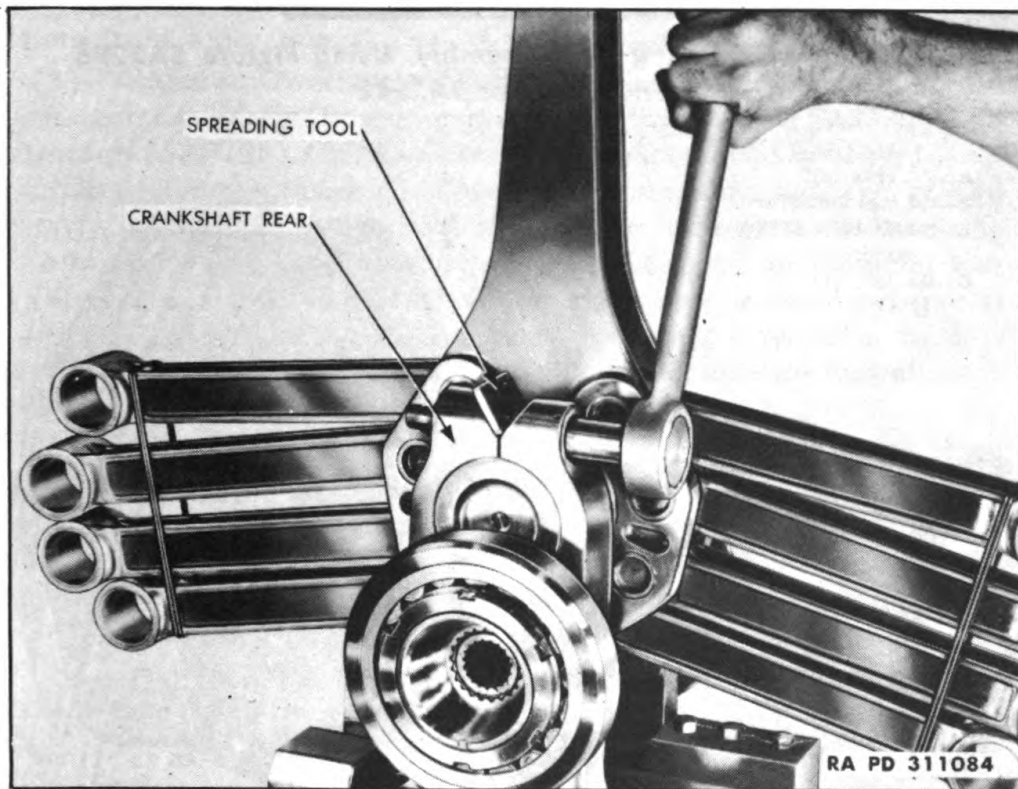
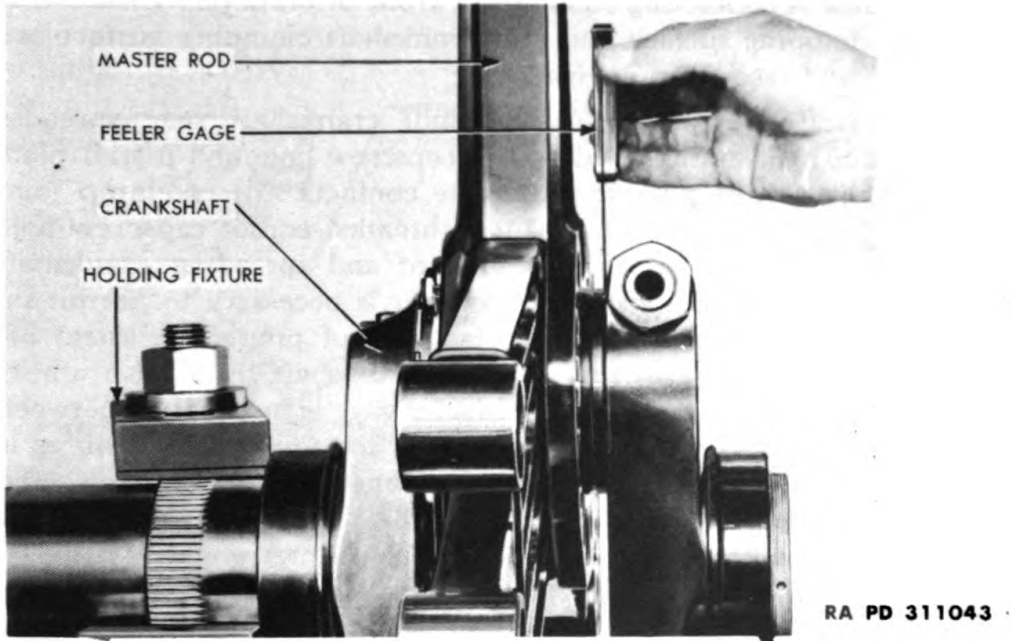
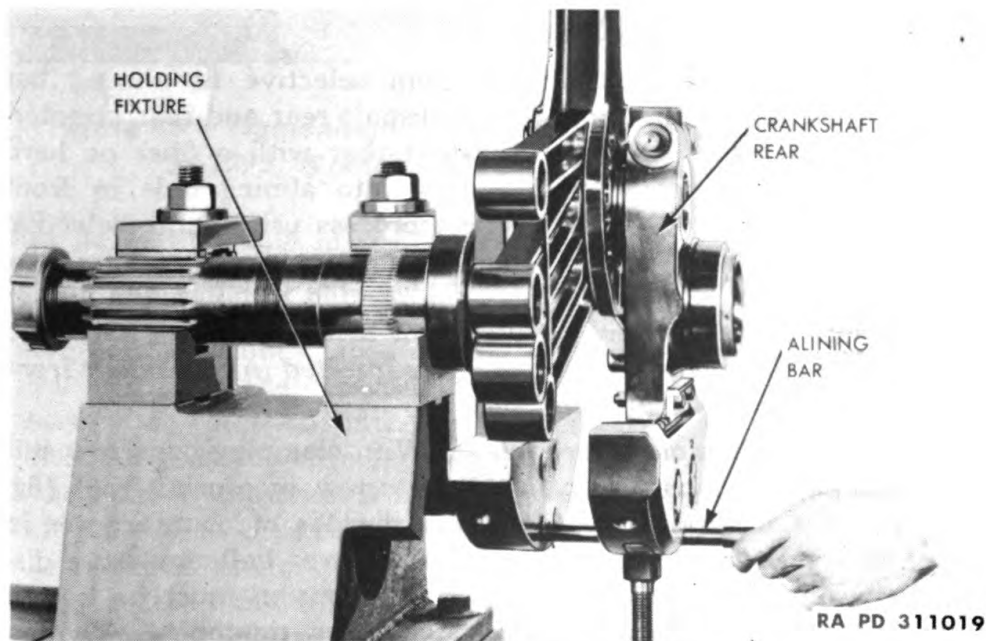

Figure 39 — Removing Crankshaft Rear, Using Spreading Tool 5A2300 and 5A2301
Figure 43 – Checking Master Rod Side Clearance, Using Holding Fixture 5A2296
Figure 44 – Checking Crankshaft Alinement, Using Fixture 5A2296 and Alining Bar 5A2290
(3) **REMOVE CRANKSHAFT REAR.** Remove cotter pin from crankshaft rear cap screw. Loosen cap screw with wrench (5A2339) and extension (5A2295) (fig. 45). Remove cap screw and washer. Install crankshaft rear spreader (5A2300) plug in unthreaded end of cap screw hole and install plate in slot of plug so that plate contacts side of clamp joint (fig. 39). Tighten screw (5A2301) in threaded end of cap screw hole to force plate against side of clamp joint and spread crankshaft rear. Do not spread crankshaft rear any more than is necessary to permit removal of this part. Remove crankshaft rear and spreading tools.
(b) *Install Crankshaft Rear.* Install crankshaft rear spreader plug (5A2301) in unthreaded end of capscrew hole and install plate (5A2300) in slot of plug so that plate contacts side of clamp joint (fig. 39). Tighten screw (5A2301) in threaded end of capscrew hole forcing plate against side of clamp joint and spreading crankshaft rear. Do not spread crankshaft more than is necessary to permit installation on crankpin. Insert a feeler gage of proper thickness between master rod, end seal spacer, and crankshaft rear. Push crankshaft rear forward on crankpin until feeler gage is held firmly between the two parts, thus insuring that proper master rod movement is obtained (fig. 43). Turn crankshaft rear on crankpin until the smallest of selective fit alining bars (5A2290) may be inserted through holes in crankshaft front and rear counterweights (fig. 44). Remove installing tools. Lubricate threaded portion of clamping capscrew hole in crankshaft rear with graphited grease and install chamfered washer and clamping capscrew finger tight. **CAUTION:** *Insure that none of lubricant is deposited on crankpin clamping surface, since this will seriously impair the clamping action of crankshaft rear. If this condition is encountered, disassemble parts, clean thoroughly, and reassemble as previously outlined.*
(c) *Aline Crankshaft.* Insert medium selective fit alining bar (5A2337) into the alining holes of crankshaft rear and rear counterweight (fig. 44). Tap side of crankshaft rear with a fiber or hard rubber mallet until bar will slip easily into alining hole in front counterweight. Remove bar and repeat process using large selective fit bar (5A2338). The position of best alining may be determined by the ease with which alining bar may be inserted in holes. Binding of bar upon insertion indicates misalignment of parts. **CAUTION:** *Do not tap crankshaft rear when alining bar is inserted in crankshaft front counterweight, as this may bend bar.*
and crankshaft rear, when master rod and articulated rod assembly is in the extreme forward position (fig. 43).